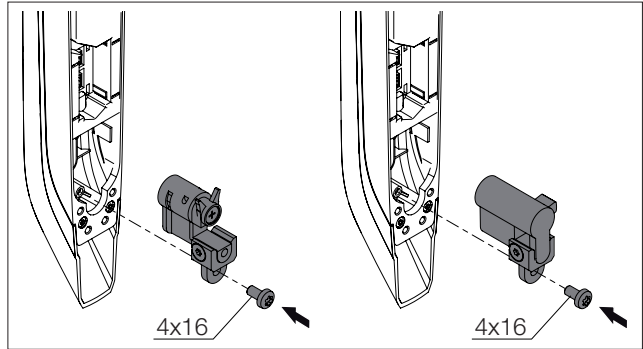

Fig. 3: Mount the holder with the lock insert (left) or profile half-cylinder (right) in the comfort handle
- Then mount the recess with the lock insert or profile half-cylinder in the comfort handle (fig. 3, $M_A = 2 + 1 \text{ Nm}$).